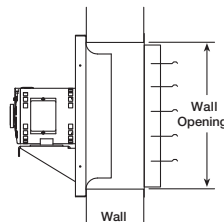
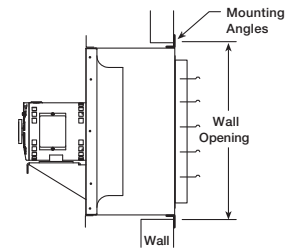
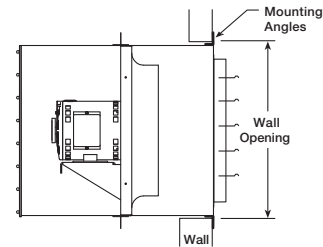
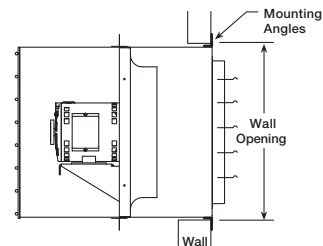

Figure 2 — Direct to Wall Installation
Figure 3 — Wall Collar Installation
Figure 4 — Wall Collar & Guard Installation
Figure 5 — Wall Housing Installation
1. Move fan to the desired location and determine the method by which the fan is to be mounted as shown in Figures 2, 3, 4 and 5. Optional wall collar (Figure 3), wall collar and guard (Figure 4) or wall housing (Figure 5) provide a convenient means of mounting sidewall fans.